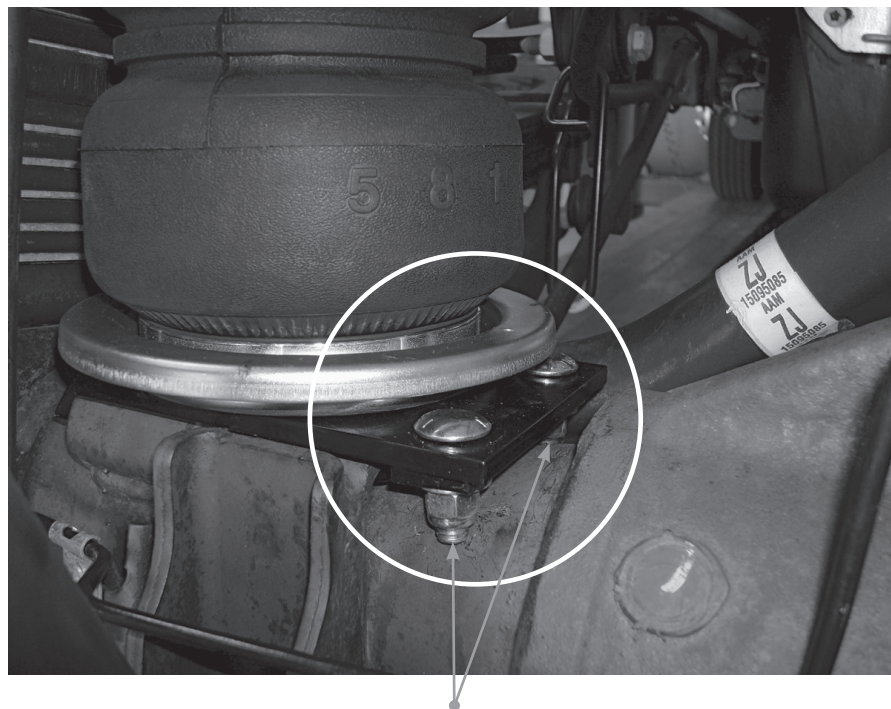

fig. 6
- While setting the lower bracket into position, insert the lower bracket carriage bolts into the holes in the clamp (E). Cap with two 3/8” flat washers (J) and nylon lock nuts (P) and tighten both nuts evenly until tight (Fig. 6).